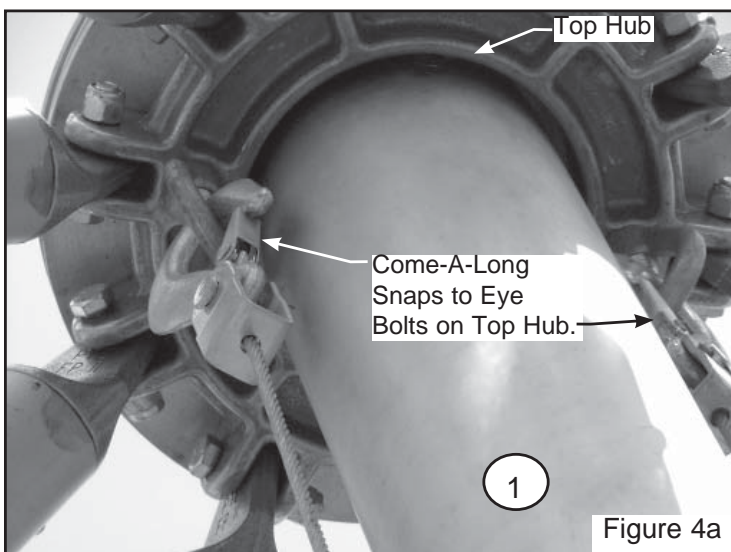
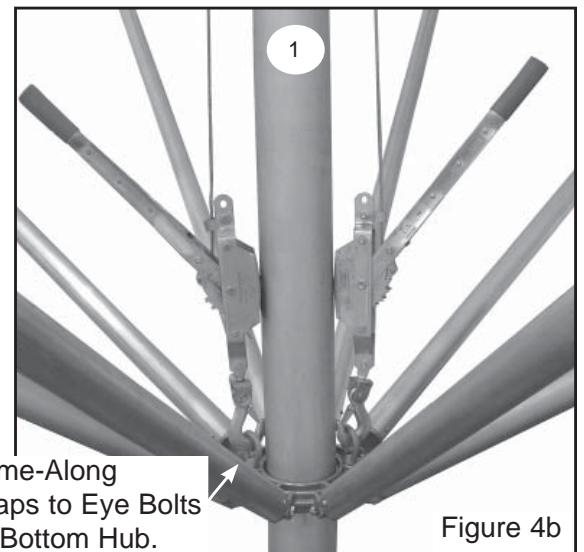

Figure 4a
Figure 4b
Snap (2) Ratchet Come-A-Longs (purchased separately) to the eyebolts on top hubs and to the eyebolts on bottom hub (Figure 4a). Ratchets should be set close to bottom hub (Figure 4b).